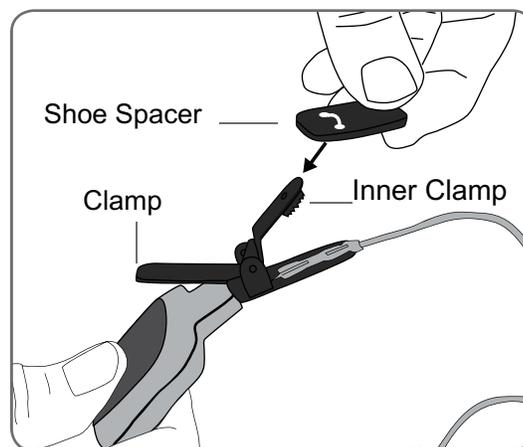

Figure 7-13: Fitting the shoe spacer.
- Open the clamp, and slide the opening of the shoe spacer over the inner clamp. See Figure 7-13.